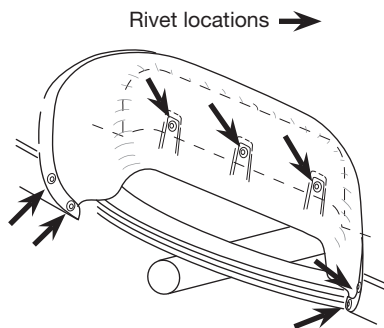

Fig. 20
3. Replace the remaining fender well liner rivets carefully. Push the rivets through the fender well liner by hand. They should push through completely (Fig. 20).